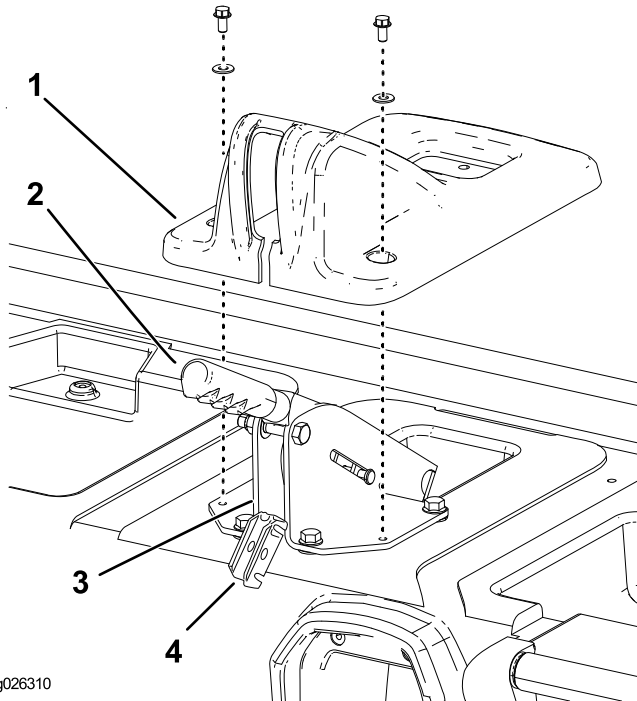

Figure 4
2. Remove the 2 bolts and washers securing the parking brake cover to the seat base (Figure 4).
3. Lift the cover over the parking brake lever and off the seat base (Figure 4).
4. Remove the clevis pin securing the brake cable equalizer bracket to the rear of the brake lever support bracket (Figure 4).
5. Lift the equalizer bracket out of the support bracket and unhook the brake cables from it (Figure 4).
6. Remove the C-clips securing the brake cables to the rear of the brake lever support bracket (Figure 4).